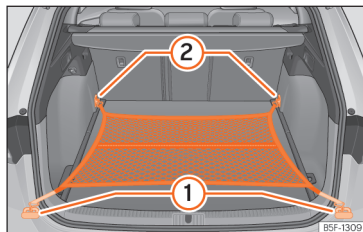

Fig. 195 In the boot: net bag hooked up at floor level.
- Secure the net hooks to the fastening rings »» Fig. 195 ① and ② »» ⚠. The bag zip should be facing upwards.